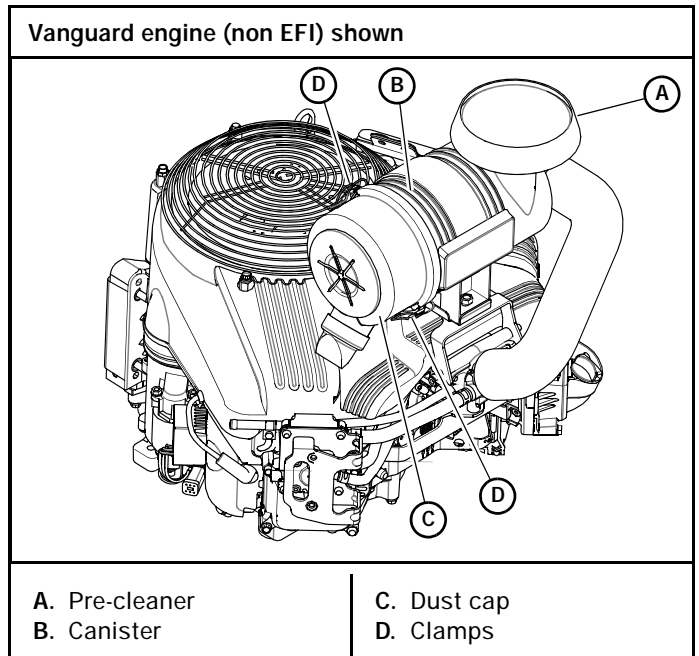
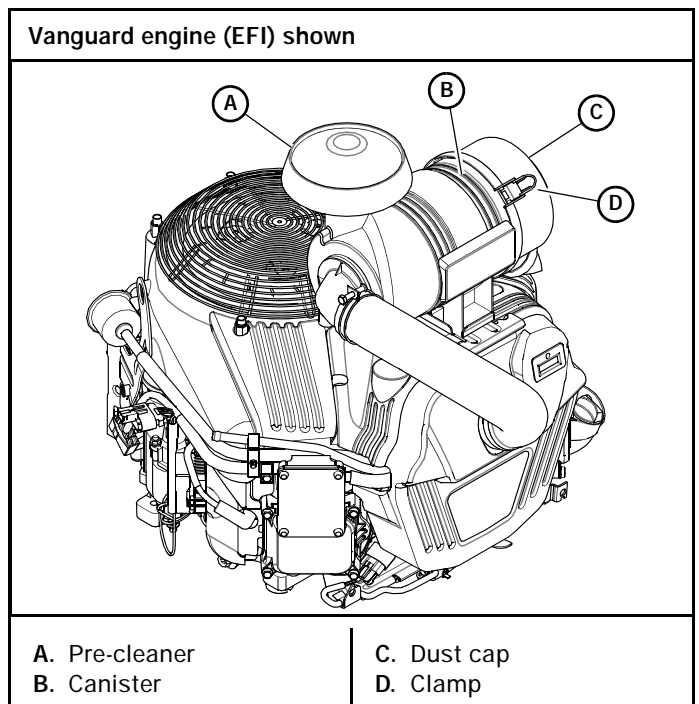
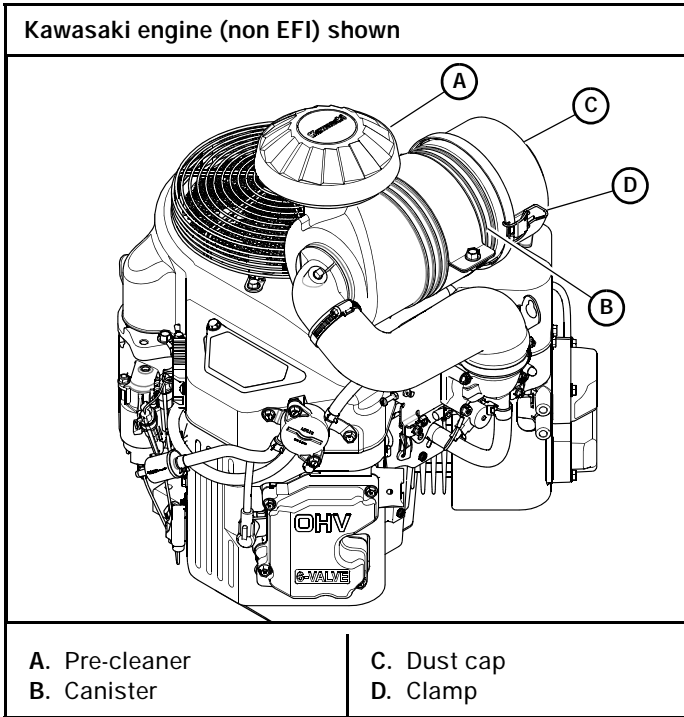

Figure 5-4
Figure 5-5
Figure 5-6
A specially designed dry filter is standard equipment on these mowers and supplies clean combustion air to the engine. Figure 5-4, Figure 5-5, & Figure 5-6
3. Reinstall the dust cap. Make sure it seals all the way around the air cleaner canister, then tighten the clamps. Figure 5-4, Figure 5-5 & Figure 5-6